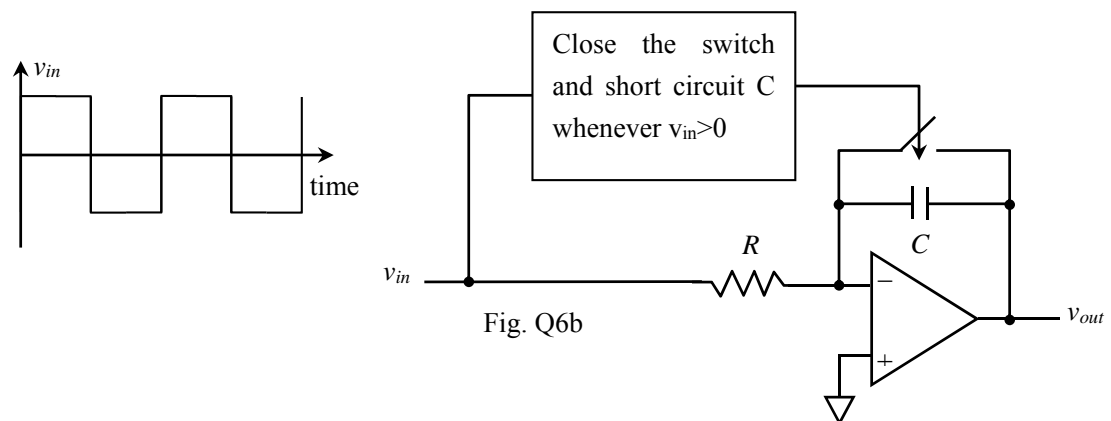

Fig. Q6b
- (b) Consider the opamp circuit shown in Fig. Q6b. The switch will short circuit the capacitor whenever the input voltage is positive. Sketch the output waveform ( $v_{out}$ ) when the input is a square wave with 50% duty cycle.
- (b) Consider the opamp circuit shown in Fig. Q6b. The switch will short circuit the capacitor whenever the input voltage is positive. Sketch the output waveform ( $V_{out}$ ) when the input is a square wave with 50% duty cycle.